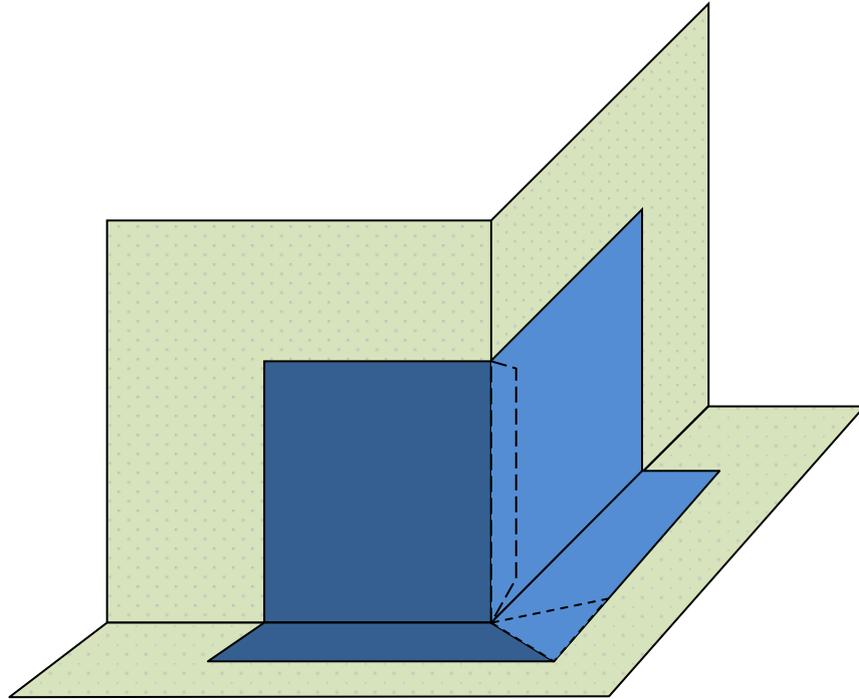
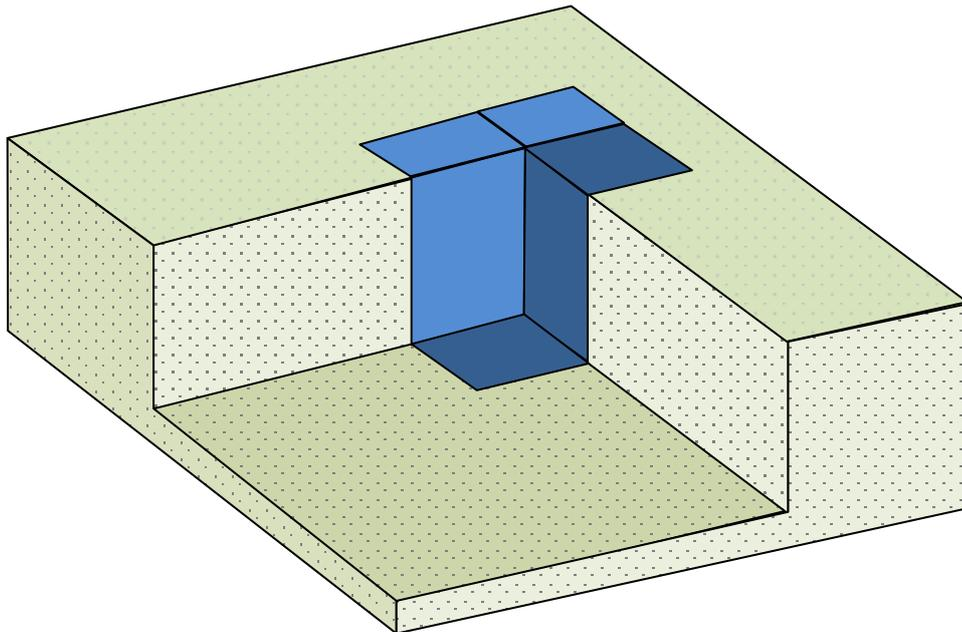

Fig. 2: Typical BSM convex corner detailing.
Fig. 5: Typical BSM concave corner detailing.
- Pave all corners, and horizontal/ vertical interfaces, as per typical details shown in Fig. 2 to Fig. 5. Crease and Fold the membrane where required, to allow the Enviro BSM to closely follow the substrate profile.